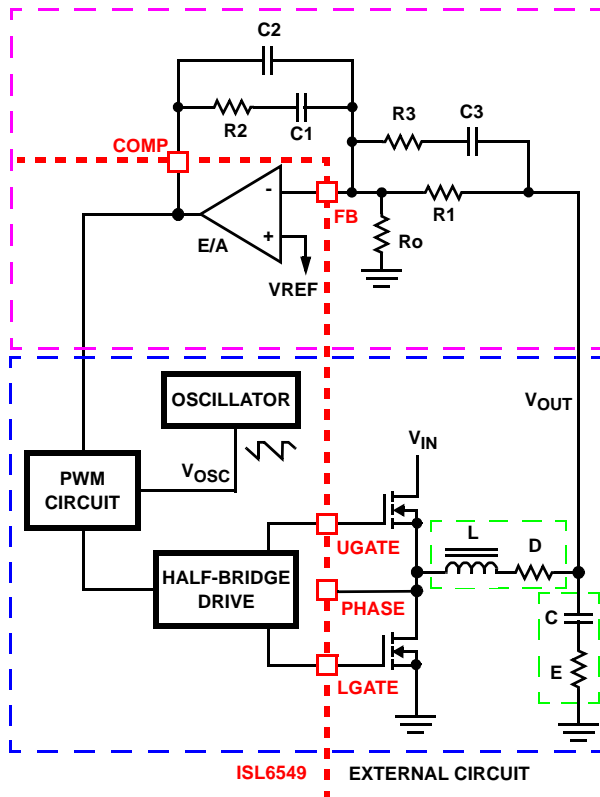

FIGURE 10. VOLTAGE-MODE BUCK CONVERTER COMPENSATION DESIGN
Figure 10 highlights the voltage-mode control loop for a synchronous-rectified buck converter, applicable to the ISL6549 circuit. The output voltage (VOUT) is regulated to the reference voltage, VREF. The error amplifier output (COMP pin voltage) is compared with the oscillator (OSC) modified saw-tooth wave to provide a pulse-width modulated wave with an amplitude of VIN at the PHASE node. The PWM wave is smoothed by the output filter (L and C). The output filter capacitor bank's equivalent series resistance is represented by the series resistor E.
The compensation network consists of the error amplifier (internal to the ISL6549) and the external R1-R3, C1-C3 components. The goal of the compensation network is to provide a closed loop transfer function with high 0dB crossing frequency (F0; typically 0.1 to 0.3 of FSW) and adequate phase margin (better than 45 degrees). Phase margin is the difference between the closed loop phase at F0dB and 180°. The equations that follow relate the compensation network's poles, zeros and gain to the components (R1, R2, R3, C1, C2, and C3) in Figure 10.
1. Select a value for R1 (1kΩ to 5kΩ, typically). Calculate value for R2 for desired converter bandwidth ( $F_0$ ). If setting the output voltage via an offset resistor connected to the FB pin,  $R_o$  in Figure 10, the design procedure can be followed as presented.